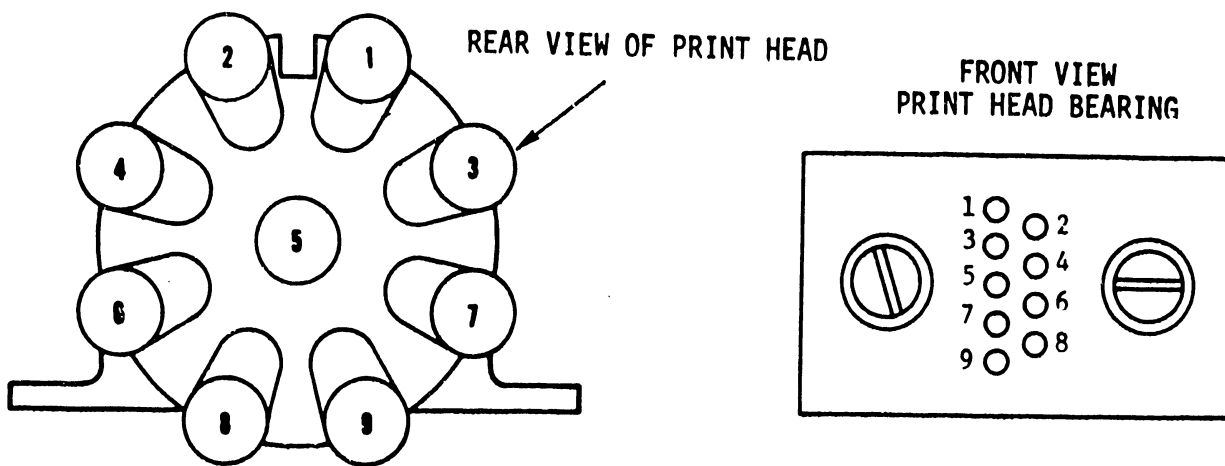

FIGURE 5-10 IDENTIFICATION OF SOLENOIDS
- 3) Turn the solenoid to be adjusted in or out while watching the solenoid wire at the bearing. See Figure 5-10.